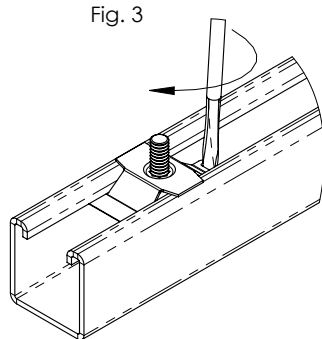

Fig. 3
3. Fig. 3: Position clip as in fig. 3 and push single tab end to the left so tab clears edge of framing. Hold and place screwdriver in slot, vertical to channel.